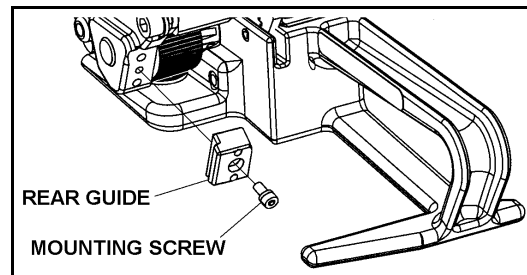

FIGURE 3
4. Rear Guide must be removed and reinstalled with numerals "19" facing outwards (See Figure 3).